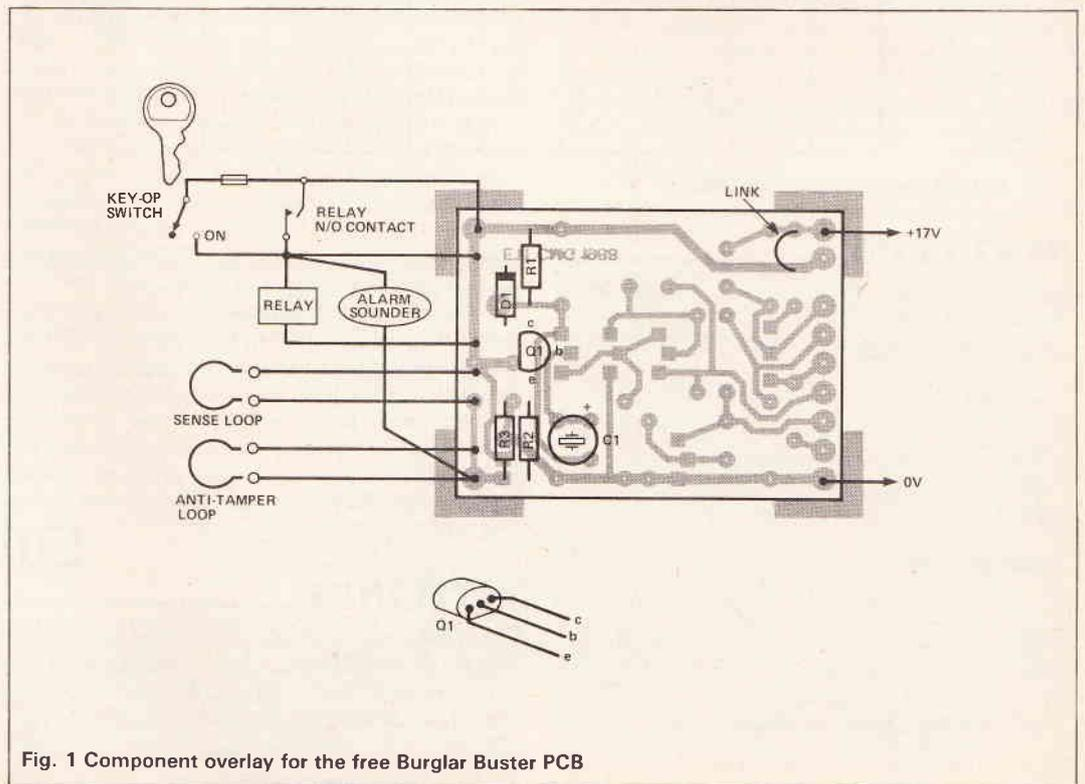

Fig. 1 Component overlay for the free Burglar Buster PCB
**H**aving described the burglar alarm circuit you can build with your free components (see *Buylines* if you missed them), now it's time to get soldering into your free PCB. Figure 1 shows the component overlay for the project and Fig. 2a repeats the circuit from last month. So — what are you waiting for?